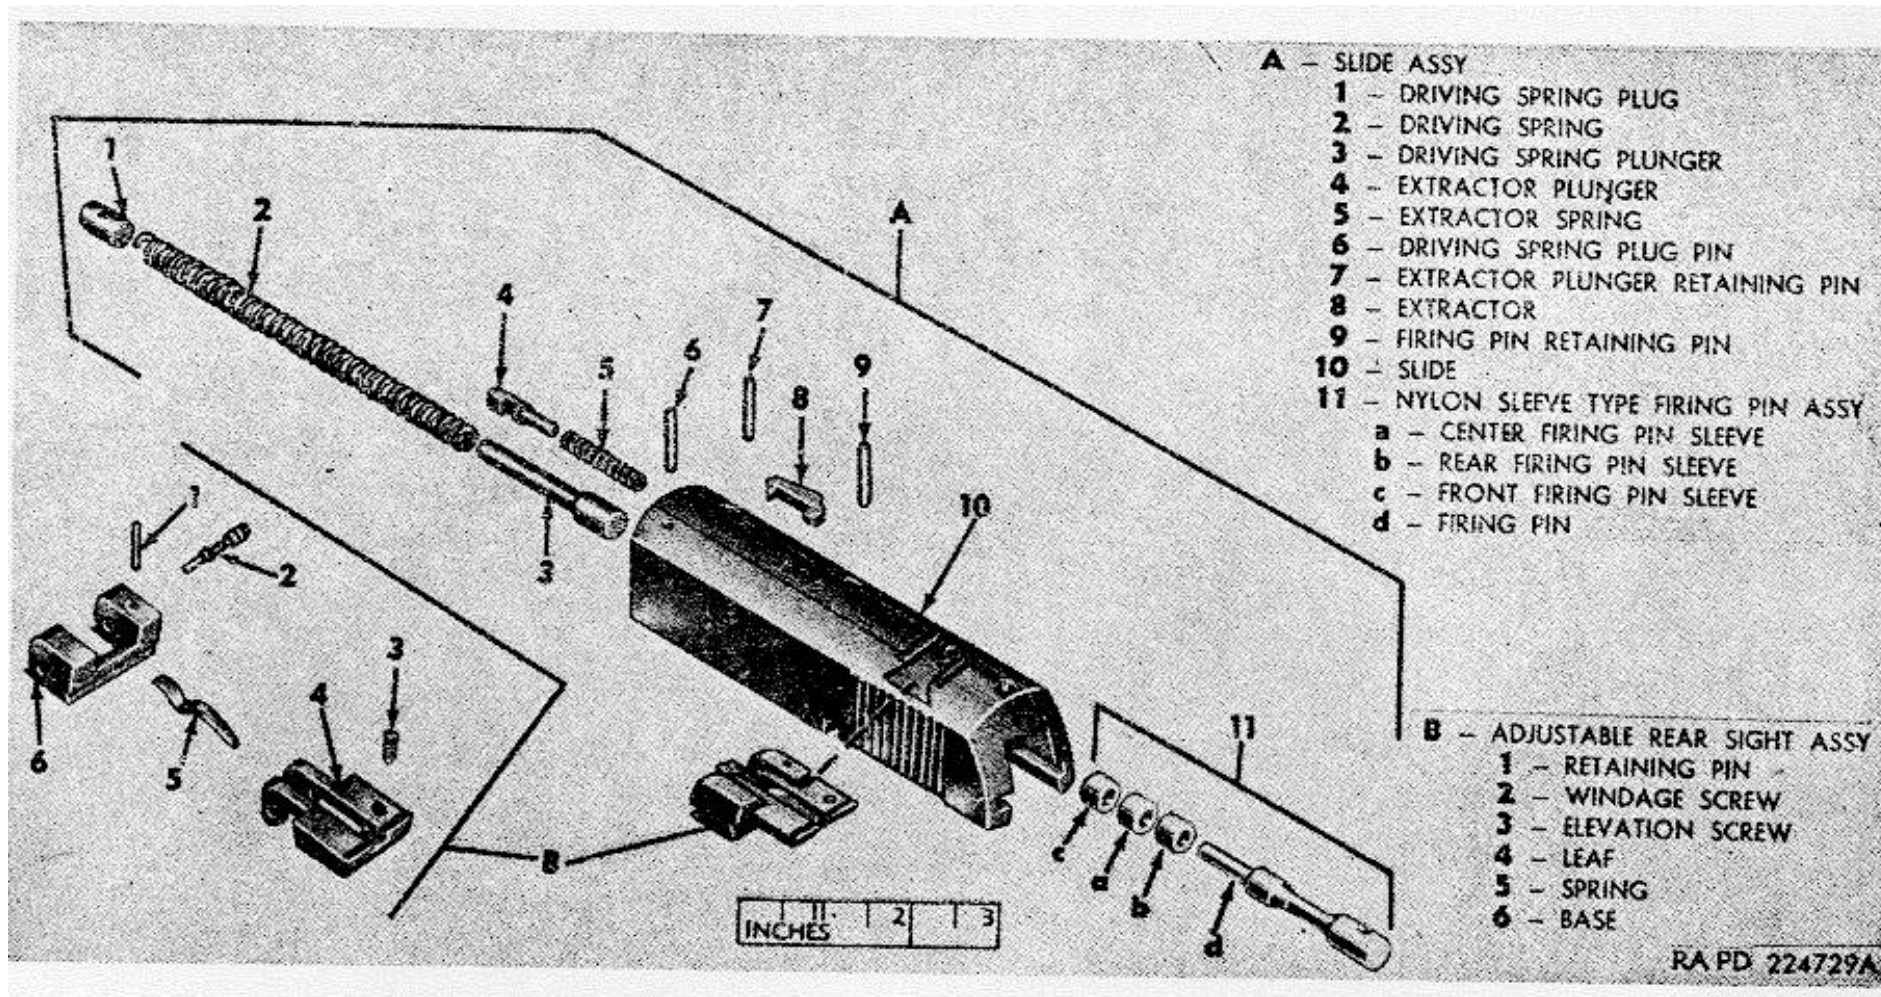

Figure 52. Slide assembly-exploded view (high standard).
a. *General.* The slide assembly (A) consists mainly of the driving spring group, adjustable rear sight assembly (B), extractor group, and firing pin group.
**Note.** The key letters shown below in parentheses refer to figure 52.
- (1) Drive out the driving spring plug pin (A-6), and remove the driving spring plug (A-1) driving spring (A-2), and driving spring plunger (A-3) from the slide (A-10).
- (2) Drive out the extractor plunger retaining pin (A-7). Depress the extractor plunger (A-4) to the rear of the slide (A-10). While holding plunger, remove the extractor (A-8) from slot in the slide. Allow extractor spring (A-5) pressure to be released slowly and remove plunger and spring from the well in the slide.
- (3) Drive out firing pin retaining pin (A-9), and remove firing pin (A-lid), rear sleeve (A-11b), center (nylon) sleeve (A-11a), and front sleeve (A-11c).
- (4) Unscrew and remove the rear sight elevation screw (B-3). Place a shim under the rear sight spring (B-5) to prevent marring of the slide finish. Drive out the rear sight retaining pin (B-1) Drive the base (B-6) and leaf group over the shim and off the slide (A-10). Remove the spring from the slide. Unscrew the windage screw (B-2) from the rear sight leaf (B-4) and remove leaf from rear sight base.